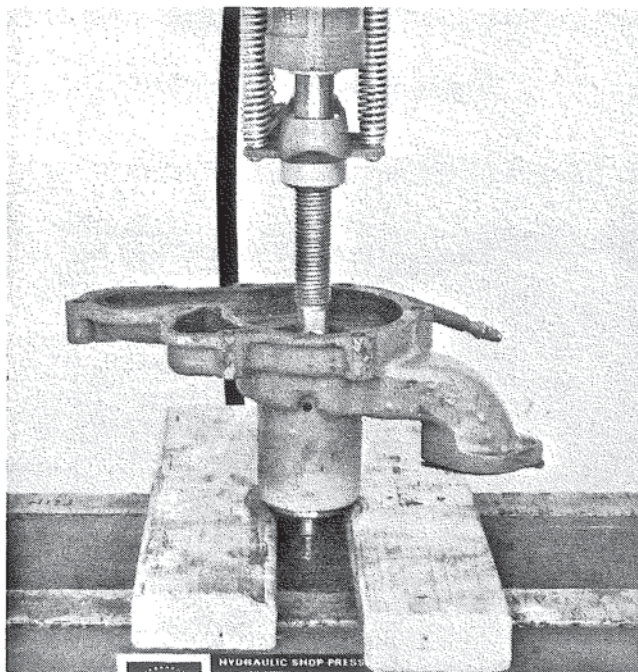

Figure 5. Pressing Shaft from Body.
5. Press shaft from body. Figure 5.